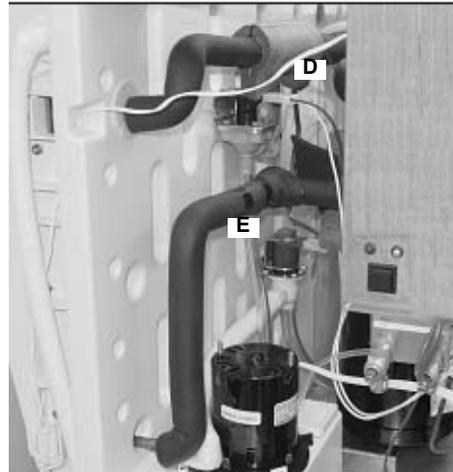

Figure 11.
7. Disconnect the electrical plug from the Water Fill Valve (D) and Water Dump Valve (E) (Figure 11).